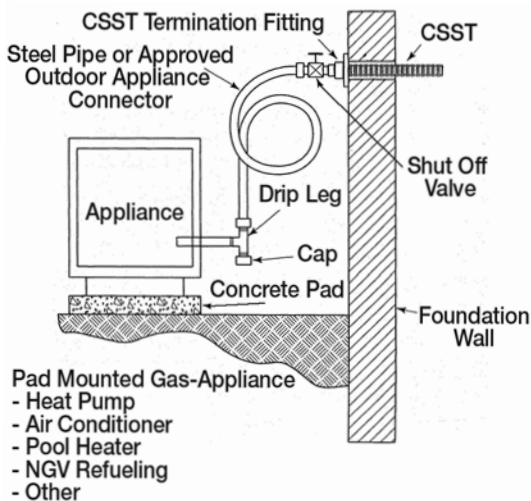

Fig. 4-68
- a) Pad Mounted Equipment (Fig. 4-68) – Moveable gas appliances on concrete pads or blocks, such as heat pumps, air conditioners, pool heaters and NGV refueling systems, shall be connected to the Gastite®/FlashShield™ CSST system at a termination fitting using either rigid pipe or an approved outdoor appliance connector.